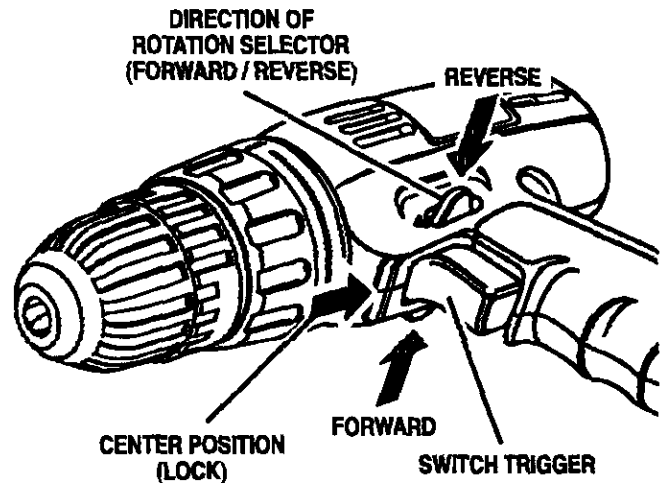

Fig. 5
See Figure 5.
- Place the direction of rotation selector in center position. See Figure 5. This will turn off the power to your drill.
- Lock the switch trigger by placing the direction of rotation selector in center position. See Figure 5.